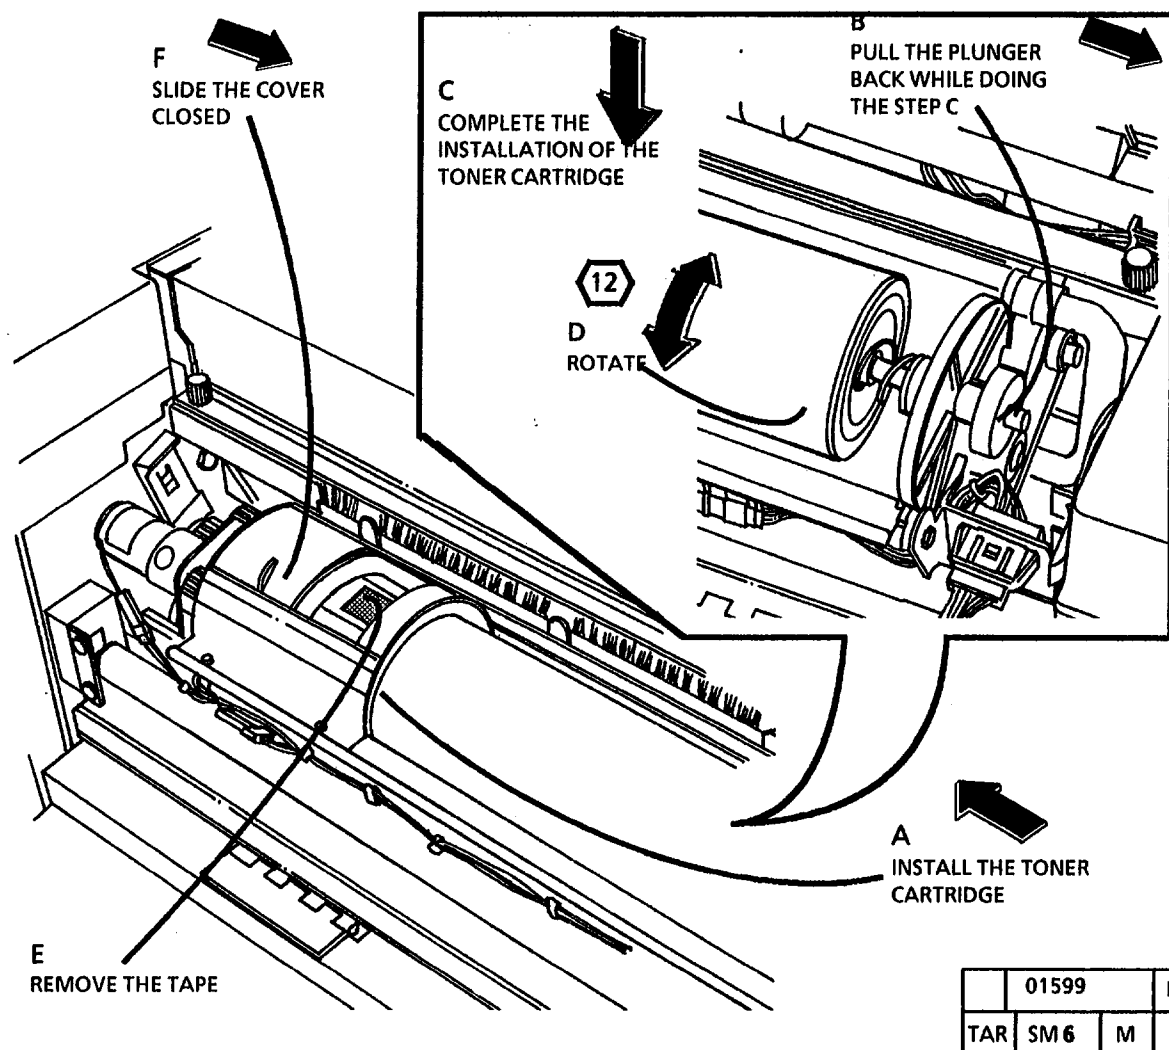

Figure 17. Install the Toner Cartridge.
17. (Figure 17): Install the Toner Cartridge.